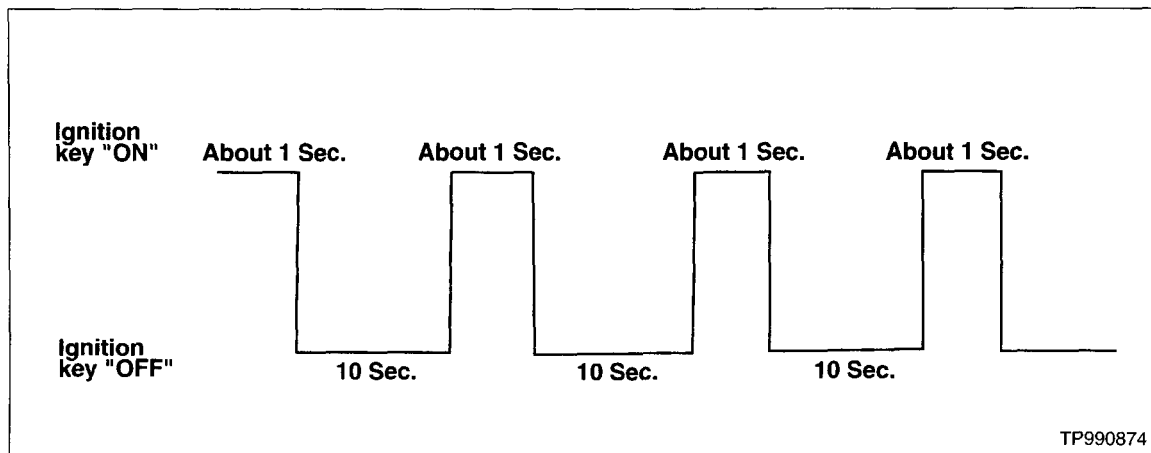

Figure 26
40. Repeat step 39 for a total of three times (see Figure 26). This will reset ECM "self learned" values.